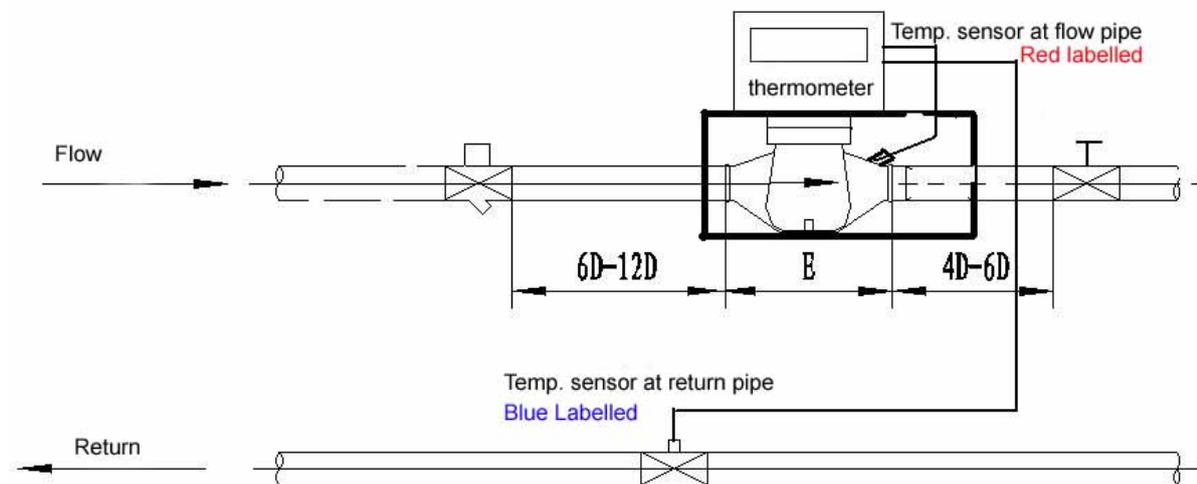

Fig. 3 Installation of the Flow Meter
- Ensure the arrow direction on the flow meter is the same as the water flows; make sure there is 6-12 inches of straight pipe before the flow meter and 4-6 inches after the flow meter see Fig. 3.